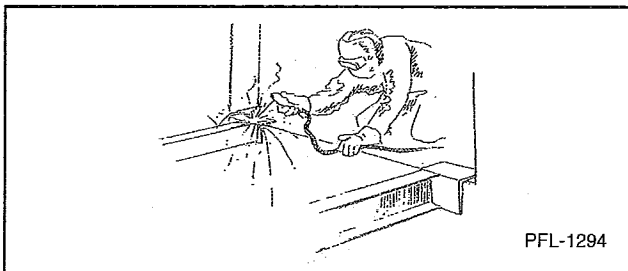

Figure 16
4. Recheck and anchor to floor if columns are plumb. Recheck dimensions before fully welding column braces. See Figure 16.